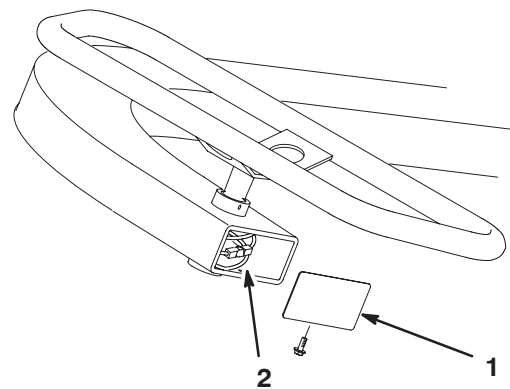

Figure 51
2. If all threads on the cable end have been used, replace the cables. If necessary, service the pulley and steering cable under the steering wheel by removing the cover on the end of the steering column (Fig. 51).